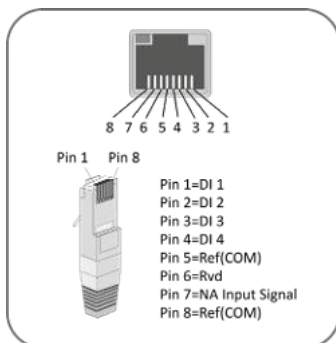

Fig. 48. Cable pin assignment
1. Strip the insulation from the wire and crimp it into the corresponding terminal. (see Fig. 48)